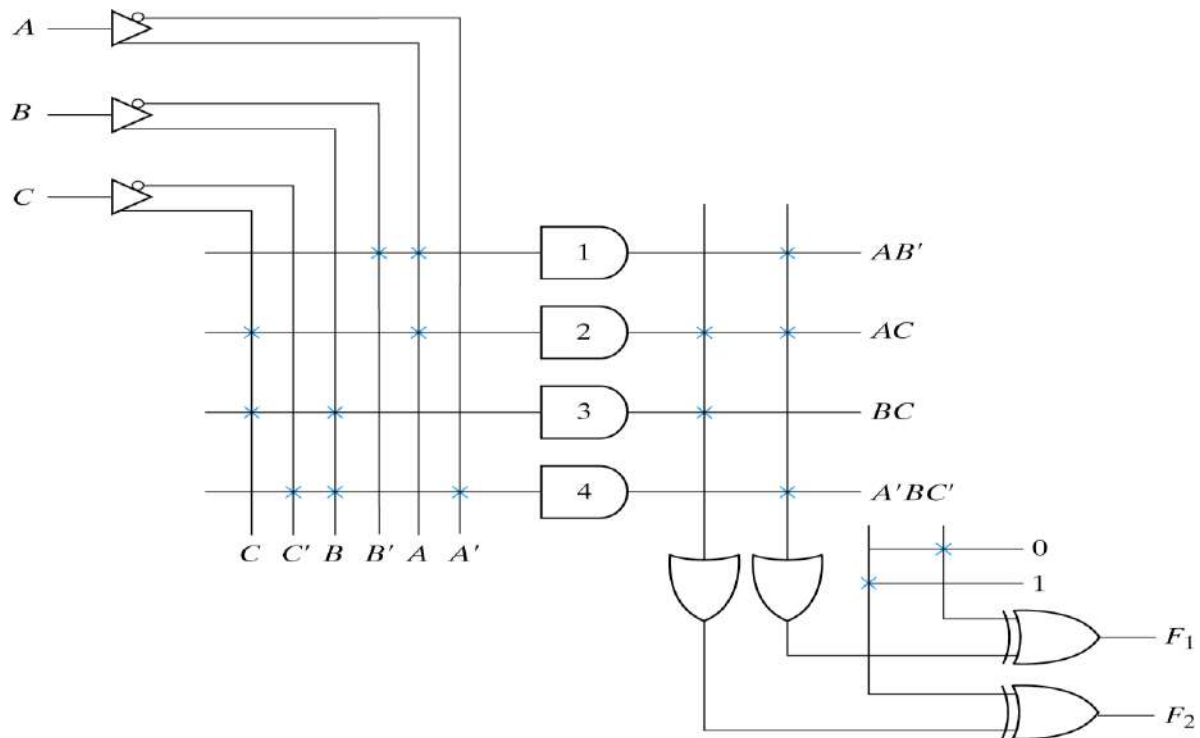

Fig. 7-14 PLA with 3 Inputs, 4 Product Terms, and 2 Outputs
- Fig.7-14, the decoder in PROM is replaced by an array of AND gates that can be programmed to generate any product term of the input variables.